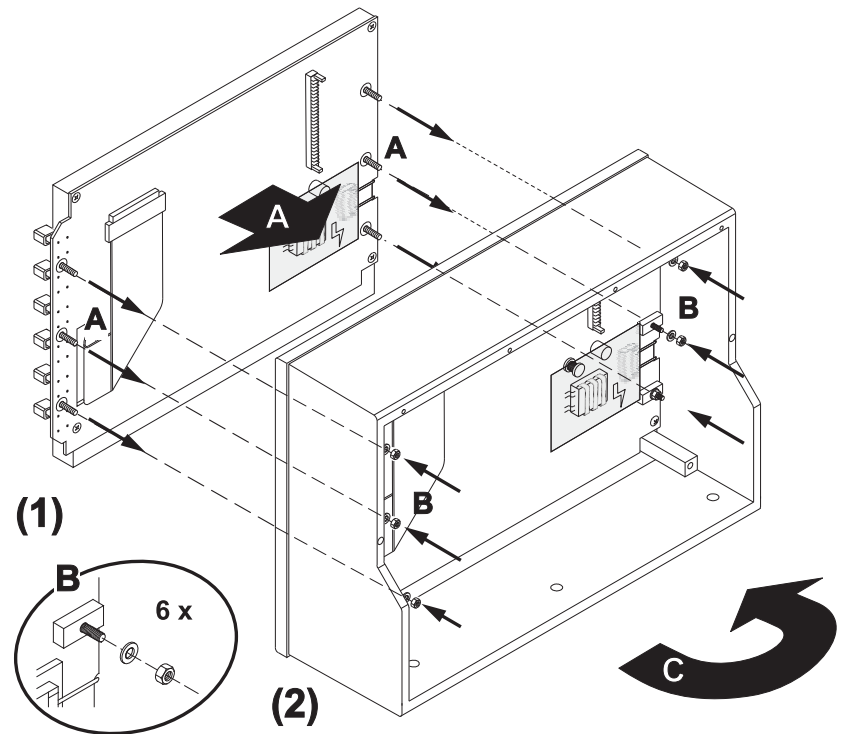

Fig. E 7-7: Placing and fastening the new mounting unit
6. Now place the new mounting unit with display, pcb, keys and inverter (spare part no. 129691) carefully from the **front side** into the case (A). Place the threaded bolts of the pcb exactly into the holes of the holder bases of the case. Thereby carefully take notice of the exact adjustment. Check the correct placement of the display pcb and fasten it with the six washers and nuts (B). Then horizontal rotate the unit in opposite direction (C). (Fig. E 7-7)